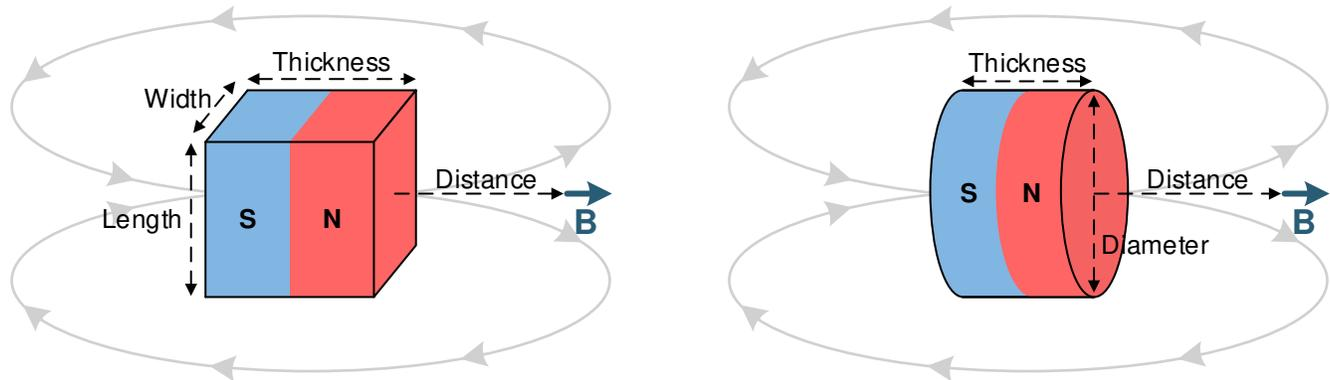

图 8-5. Rectangular Block and Cylinder Magnets
dimensions of a magnet determine the magnetic flux density (B) produced in 3-dimensional space. For simple magnet shapes, such as rectangular blocks and cylinders, there are simple equations that solve B at a given distance centered with the magnet. 图 8-5 shows diagrams for 式 4 and 式 5.
Use 式 4 for the rectangular block shown in 图 8-5:
Use 式 5 for the cylinder illustrated in 图 8-5: